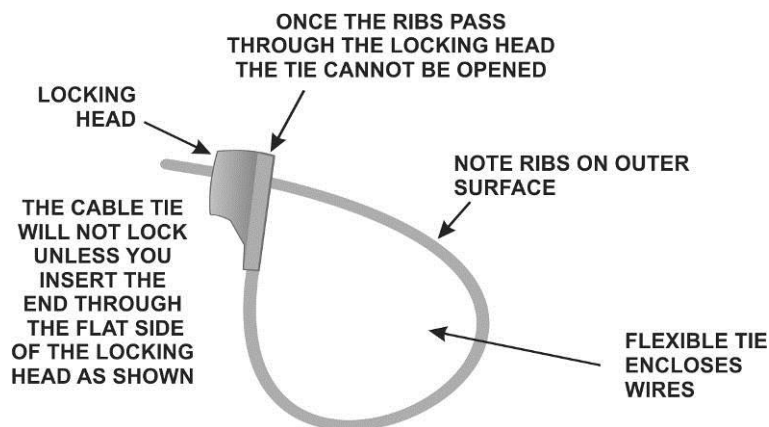
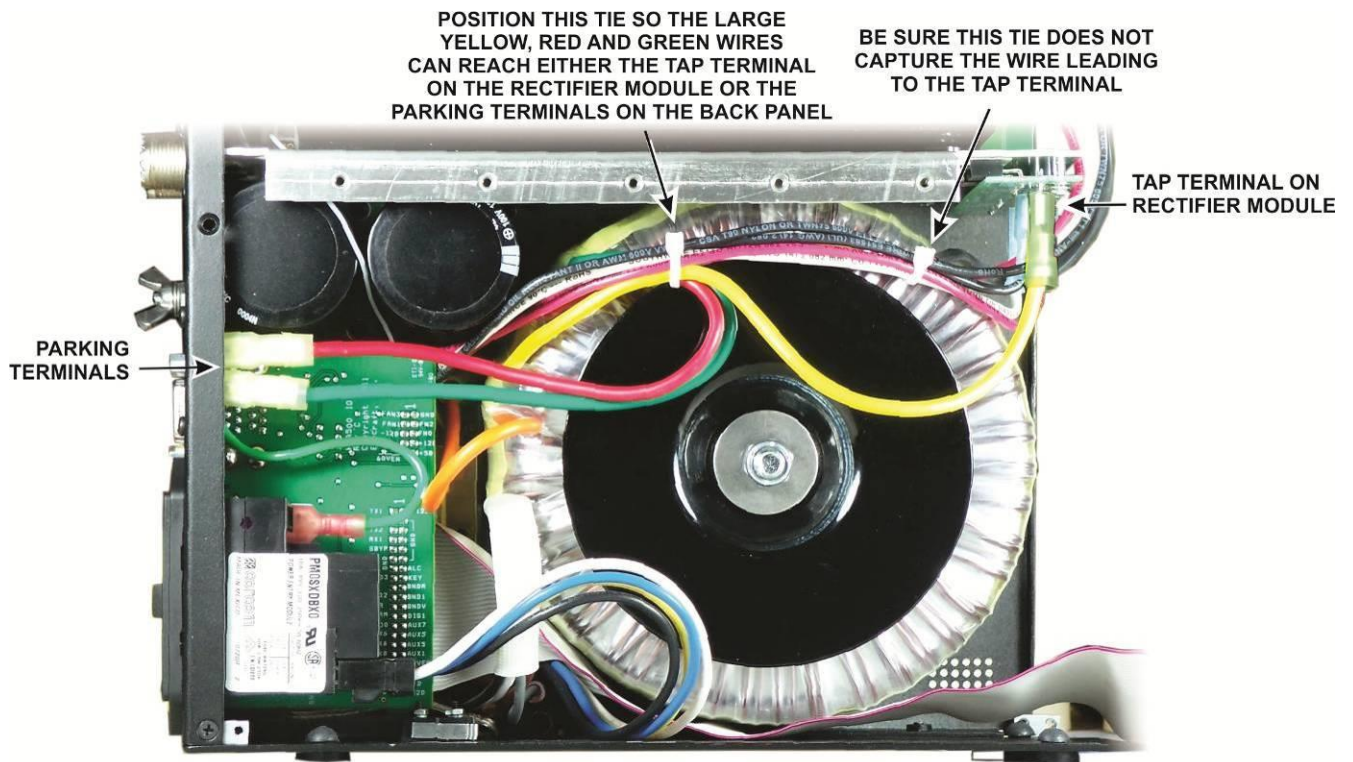

Figure 54. Cable Tie.
Figure 55. Installing Cable Ties.
- ❑ Two cable ties are provided to dress the long wires that pass over the transformer. These ties are supplied to produce a neat arrangement of the wires. They are not required for any safety or operational reason. If you have not worked with this type of cable tie before, Figure 54 shows the correct way to install them. Install the ties as shown in Figure 55. After pulling each tie tightly around the wires, cut off the excess where it exits the locking head. Take care to ensure the yellow, green and red wires can be attached either to the tap terminal on the rectifier module or to the parking terminals as shown in the figure.